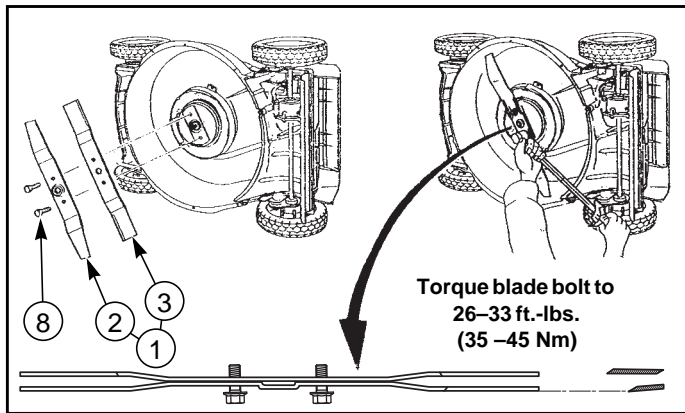

Fig. 4-13
2. Remove the normal cutting blade and replace with mulching blades ①. Use the bolts ② supplied with the mulching blades. The regular bolts will be too short. Torque blades to 26 - 33 ft.-lb. (35-45 Nm). Fig. 4-13